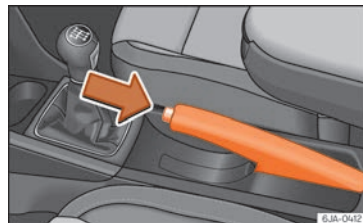

Fig. 214 Centre console: handbrake.
- Pull the handbrake lever up slightly and press the unlock button **at the same time** » Fig. 214.